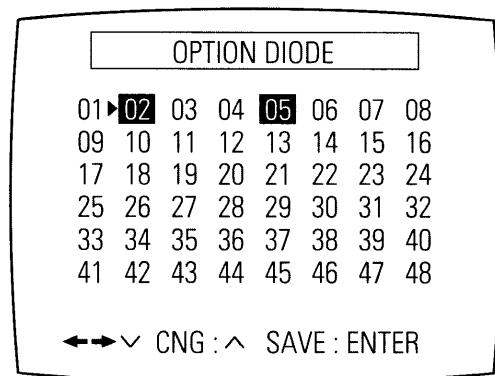

Fig. 5-17
- 2) Press the "MENU (OSP)" button on the remote control about 5 seconds then option setting display is appeared. (See Fig. 5-17)
- 4) If selecting the option number is completed, press the "CH/TRK (PROG.TV) \curvearrowright " button of remote control. (If "CH/TRK (PROG.TV) \curvearrowleft " button is pressed, the selected number is changes reversed color. ; See Fig. 5-17)